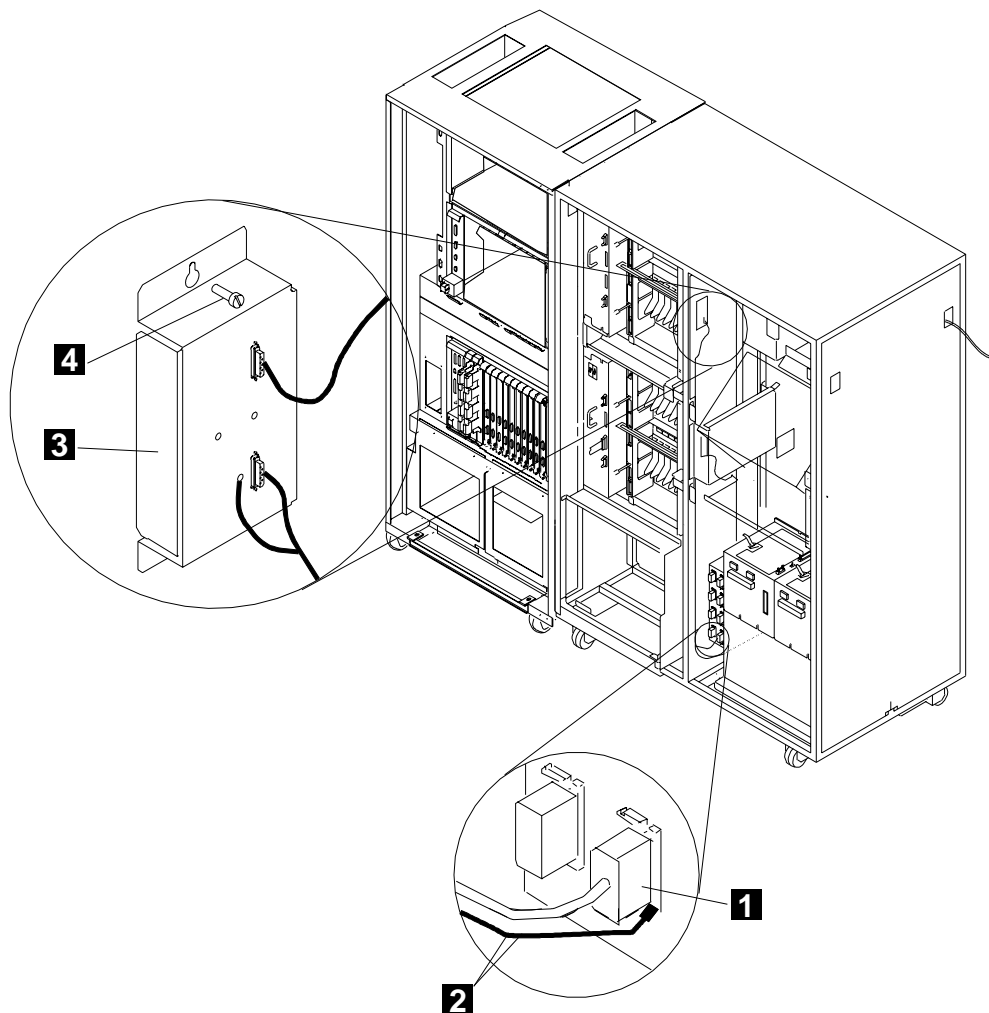

Figure 4. 3745-X1A Power Control Cabling.
- ___ 8. Disconnect the EPO connector **1** from the 3745 EPO tailgate in 01S-A0 (see Figure 4).
- ___ 15. Reinstall the console tailgate **3** on the 3745 frame, tighten the two screws **4** (see Figure 4 on page 8).